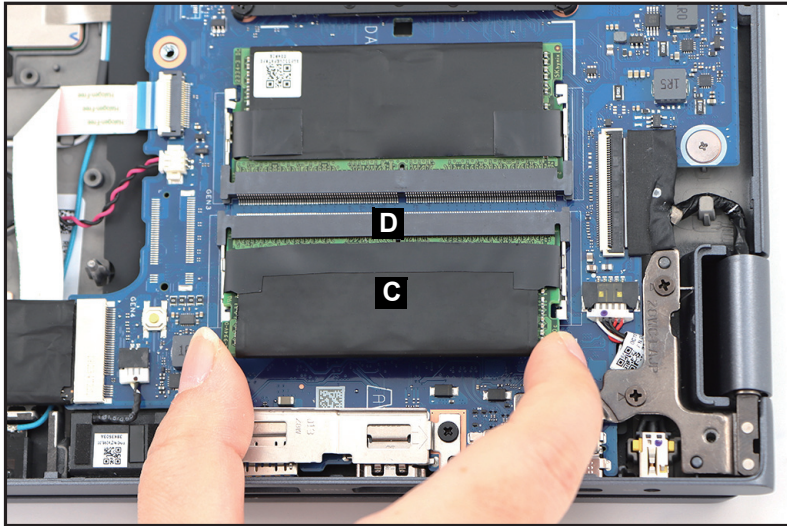

Figure 1-28. DIMM Module Removal
3. Disconnect the DIMM module (C) from the mainboard connector (D) (Figure 1-28). Then remove the DIMM module.